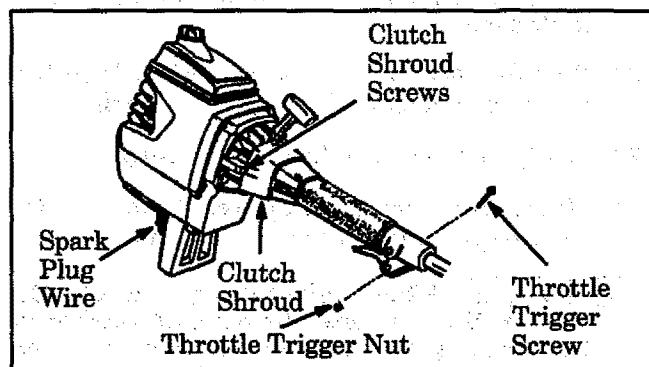

Figure 25
1. Disconnect spark plug wire. Figure 25.
2. Remove the screw and nut from the throttle trigger housing. Figure 25.
5. Remove the four clutch shroud screws with the small hex wrench provided. Figure 25.
6. Separate clutch shroud from engine. Figure 25.